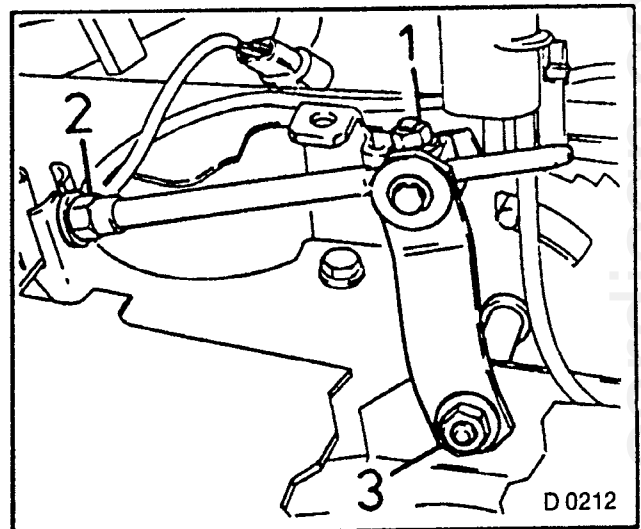

Fig. 263
2. Unbolt lever from selector lever axle (Fig. 263 Item 3).